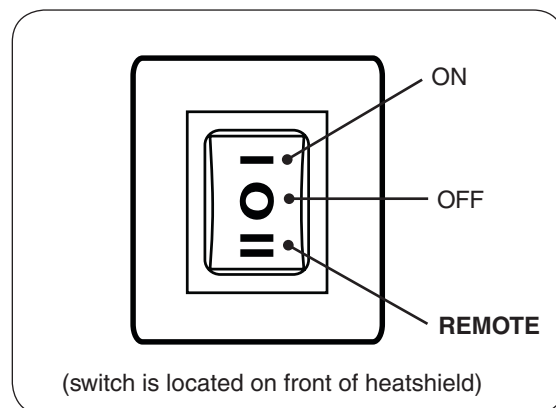

Fig. 13-1 Switch detail
1. Locate the 3-position switch found on the front of the heatshield (see Fig. 13-1). Press the switch down to the **REMOTE** position.